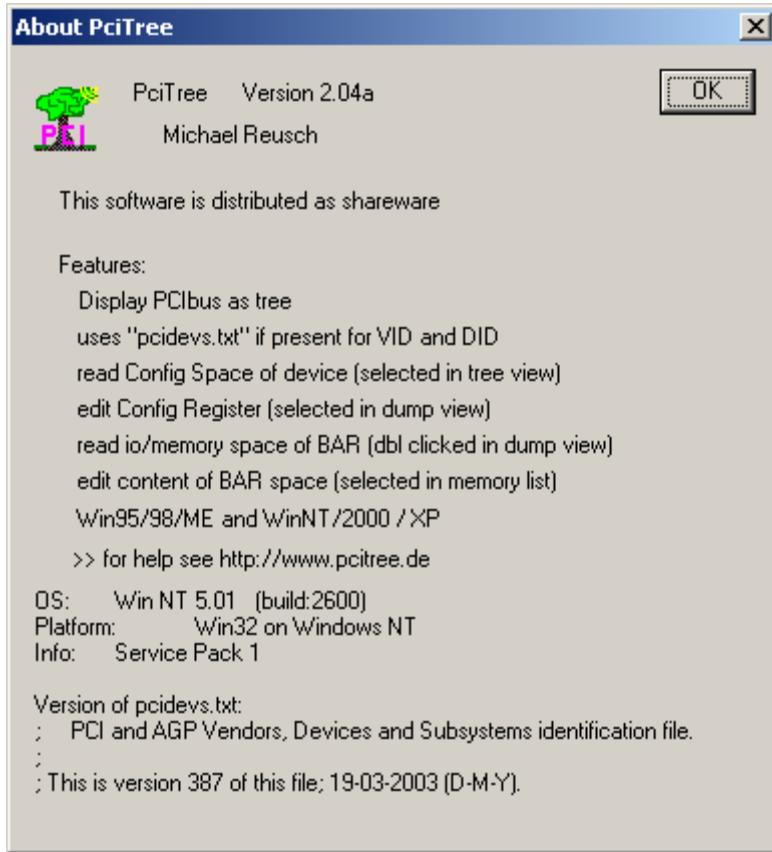

Figure 1-28: About the PciTree Tool
1. Download the free PciTree tool ([Figure 1-28](http://www.pcitree.de/download.html)) from <http://www.pcitree.de/download.html>